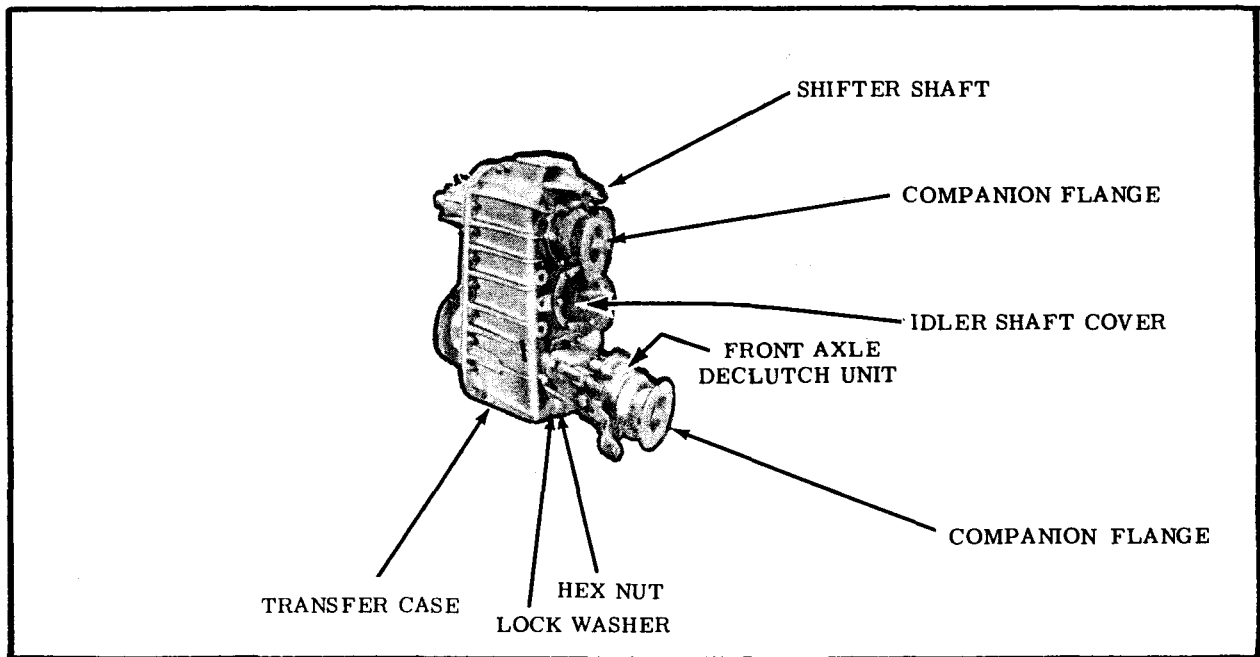

Figure 1. Transfer Case-Front View.
a. Description. Model T-77 (Figs. 1, 2, and 3) is a typical two-speed transfer case. It has a Front Axle declutch unit. An optional power-take-off unit can be mounted to the rear of the main shaft. Other similar models may have different type gears and shafts. However, the rebuild operation is essentially the same for all T-77 models.
b. Remove Front Axle Declutch Unit. Remove the nuts and lock washers that secure the front axle declutch unit (fig. 1) to the transfer case. Remove the front axle declutch unit and gasket.